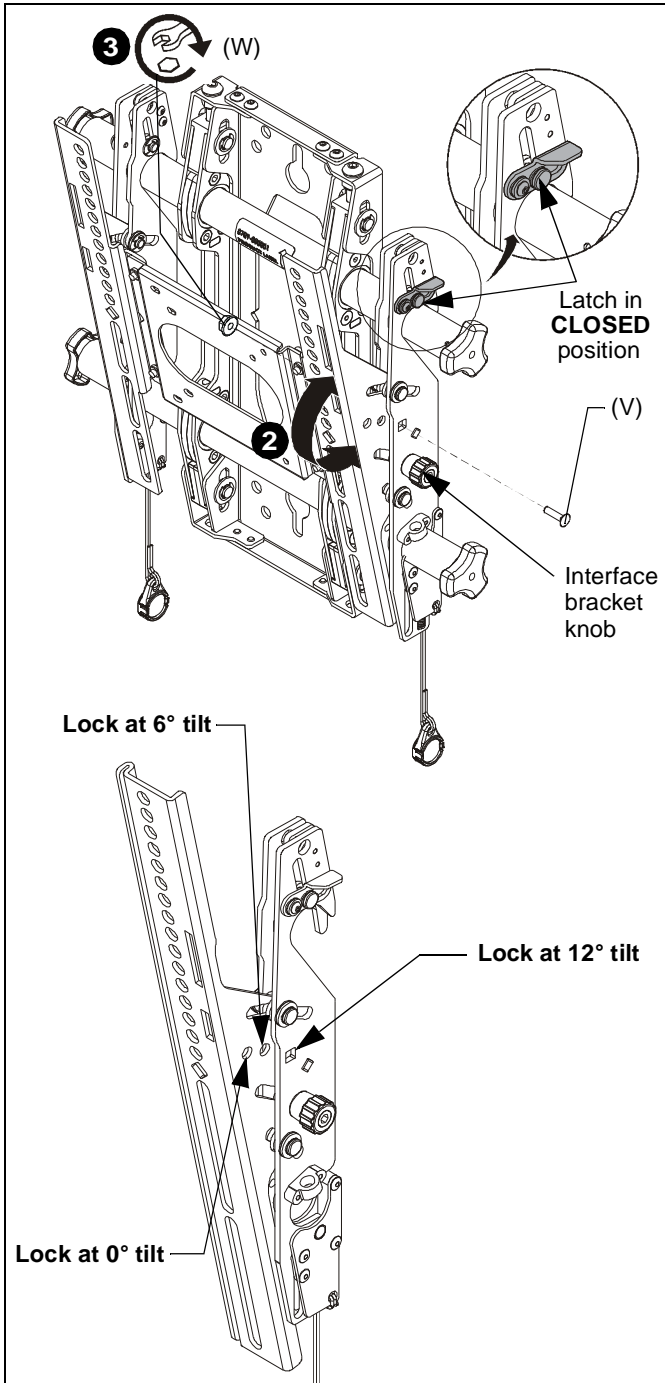

Figure 11
2. Adjust tilt as required. (See Figure 11)
3. The tilt may be locked at 0°, 6° or 12° using one 1/4-20 x 1" round head carriage bolt (V) and one 1/4-20 hex nut (W) per interface bracket. (See Figure 11)